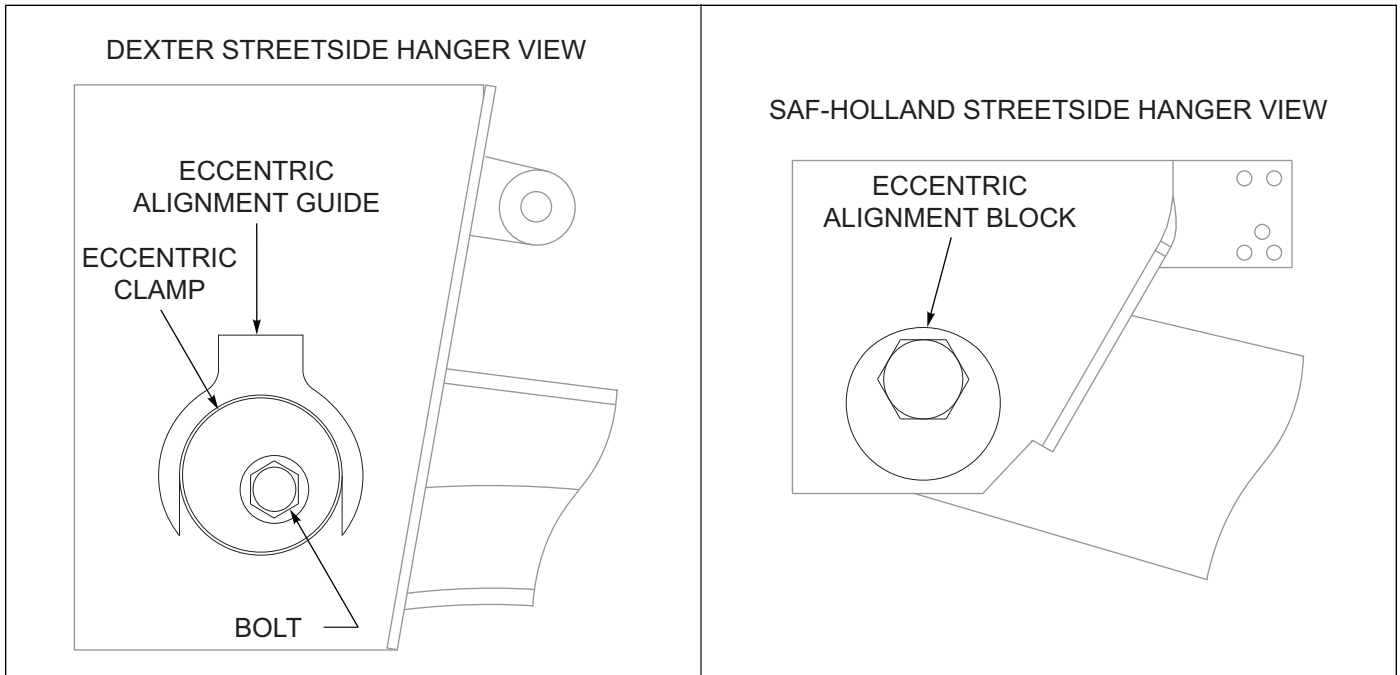

Figure 4-11: Streetside Suspension Hanger
- a. 1-1/8 in Pivot Bolts - Loosen pivot bolt lock nuts and rotate eccentric pivot bolts clockwise or counter-clockwise to adjust. Repeat Steps 5-6 until measurement is achieved, **See Figure 4-11.**
- b. 7/8 in Pivot Bolts - Break welds if present between hanger mounts/eccentric collars and pivot lock nuts/jam nuts. Loosen jam nuts if installed. Loosen lock nuts. Rotate eccentric pivot bolts clockwise or counter-clockwise to adjust. Repeat Steps 5 through 6 until measurement is achieved, **See Figure 4-11.**
- a. 1-1/8 in Pivot Bolts - Loosen pivot bolt lock nuts and rotate eccentric pivot bolts clockwise or counterclockwise to adjust. Repeat Steps 5 through 6 until measurement is achieved, **See Figure 4-11.**
- b. 7/8 in Pivot Bolts - Break welds if present between hanger mounts/eccentric collars and pivot lock nuts/jam nuts. Loosen jam nuts if installed. Loosen lock nuts. Rotate eccentric pivot bolts clockwise or counterclockwise to adjust. Repeat Steps 5 through 6 until measurement is achieved, **See Figure 4-11.**
- b. 7/8 in Pivot Bolts - Break welds if present between hanger mounts/eccentric collars and pivot lock nuts/jam nuts. Loosen jam nuts if installed. Loosen lock nuts. Rotate eccentric pivot bolts clockwise or counter-clockwise to adjust. Repeat Steps 5-6 **See Figure 4-11.** until measurement is achieved, **See Figure 5-11.**